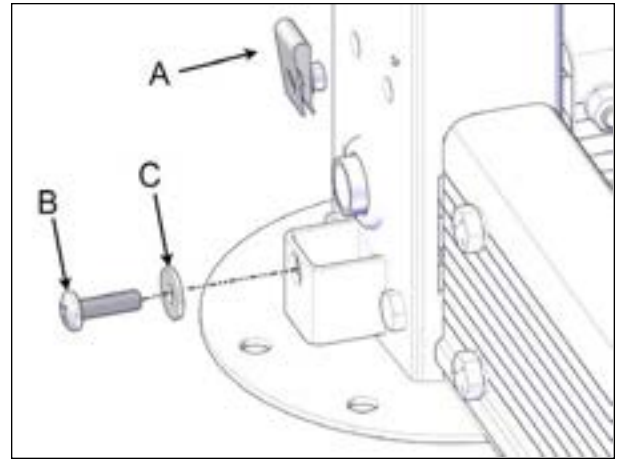

FIGURE 58: CLIP-ON BARREL NUT INSTALLATION
18. Install the clip-on barrel nuts at the bottom of the non-motor-side jack assemblies to hold the sleeves in the bottom. Use Phillips M6 x 20 mm screws and 1/4" nylon washers. Only the non-motor-side jack assemblies need clip-on barrel nuts to be installed see Figure 58.